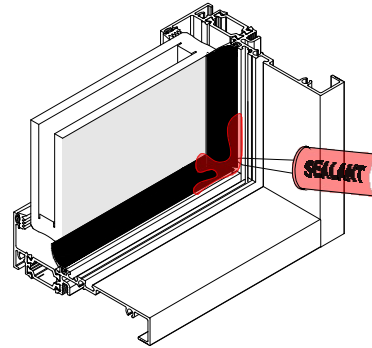

FIG. 2
- c. Using a tooling stick peel back overlapping gasket and apply sealant in-between gaskets, and around the corner to prevent air leakage. **See FIG. 2**